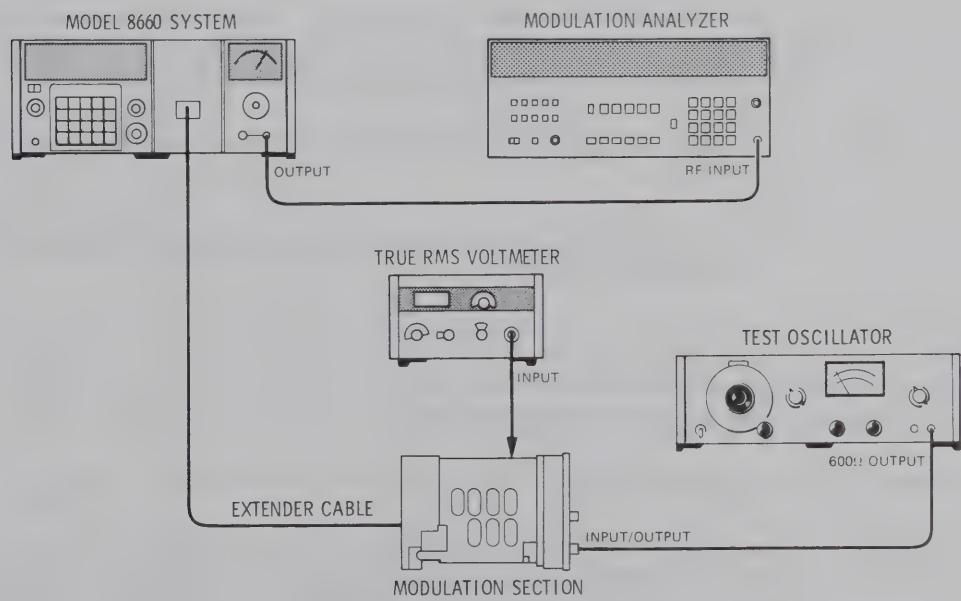

Figure 5-5. FM Deviation Attenuator Adjustment Test Setup
- PROCEDURE: 1. Set the MODE switch to FM X0.1, the SOURCE switch to DC, and the MODULATION LEVEL control full clockwise. Connect equipment as shown in Figure 5-5.
8. Reconnect the equipment as shown in Figure 5-5.